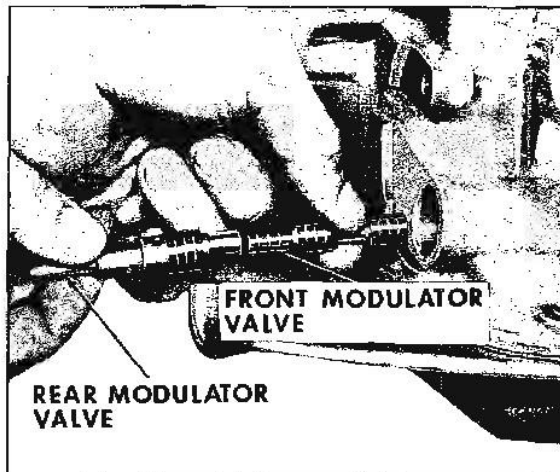

Fig. 7B-40 Removing Vacuum Modulator Valve Assembly
1. Install modulator valve assembly into case bore. (Refer to Fig. 7B-40 for correct assembly sequence.)